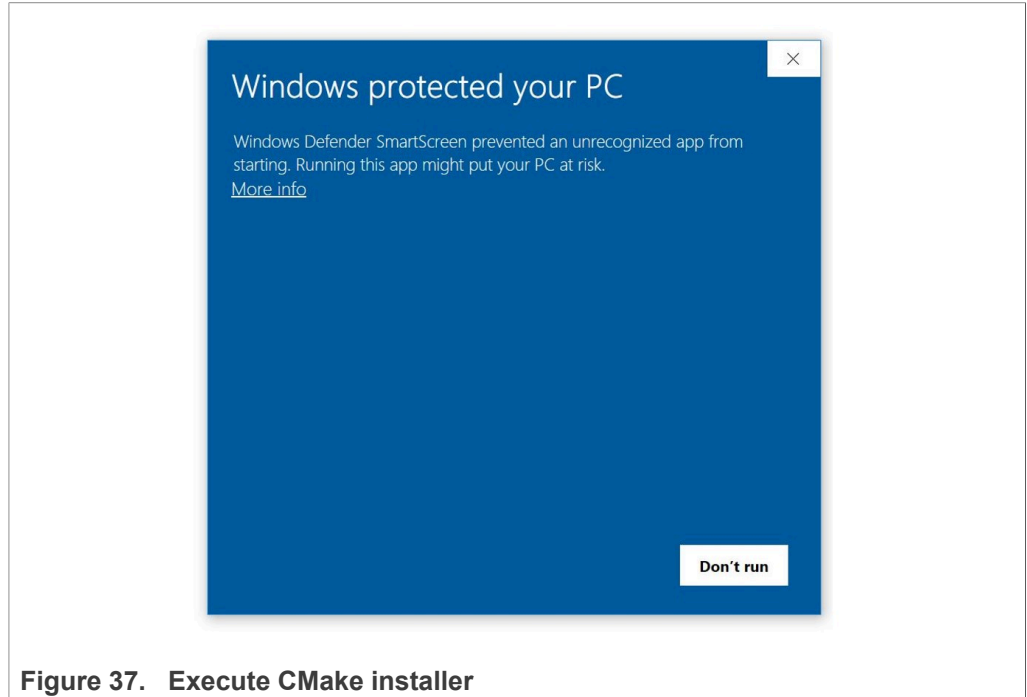

Figure 37. Execute CMake installer
- Double click on the downloaded installer file. Windows Defender SmartScreen might pop-up the wizard shown in Figure 37: